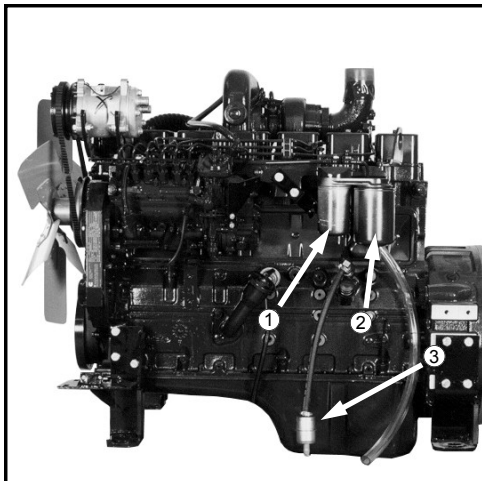

FIG 7.29
PRIMARY (WATER SEPARATOR) - (fig. 7.29, item 2) Drain water and sediment from the separator daily. Replace every 500 hours or once a year, whichever comes first.
SECONDARY - (fig. 7.29, item 1) Replace every 500 hours or once a year, whichever comes first.
IN-LINE STRAINER - (fig. 7.29, item 3) Note direction of fuel flow arrow when replacing.